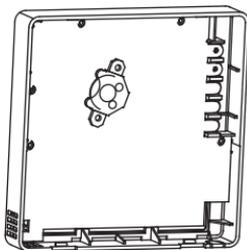

Fig 3-5
- Put the battery into the installation site and make sure the positive side of the battery is in accordance with the positive side of the installation site. (See Fig. 3-5)